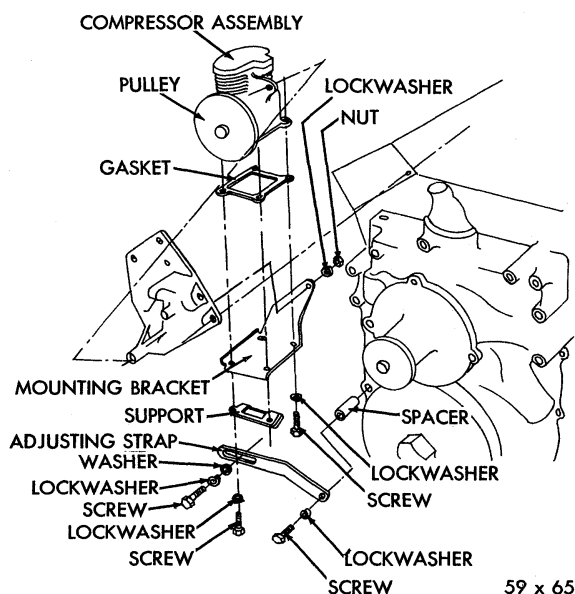

Fig. 15 — Compressor Mounting (with Air Conditioning — Model MC-1)
**c. Installation (Figs. 15, 16 and 17)**